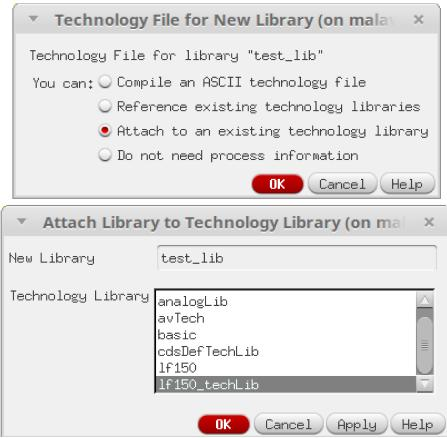

Figure 5: Attach a Library to a Technology Process
2. In this example, the library will be named "test.lib". You will also be asked whether you wish to attach "test.lib" to a Technology File (see Fig. 5).
Click on "Attach to an existing Technology library", press OK and select "lf150\_techlib" (LFOUNDRY 150nm process): (Fig. 5).